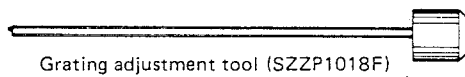

Fig: 4-15. Left side view of traverse unit
5. Insert the GRATING ADJUSTMENT TOOL (SZZP1018F) into the hole on the left side of the optical pick-up body as shown in figure 4-15.